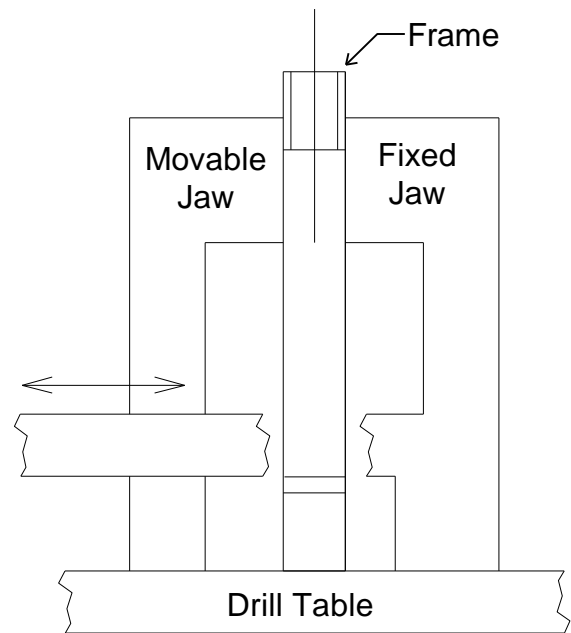

Fig. 6 Drill Thru Hole
- D. Mount the workpiece vertically in a drill press vise (see Figure 6).